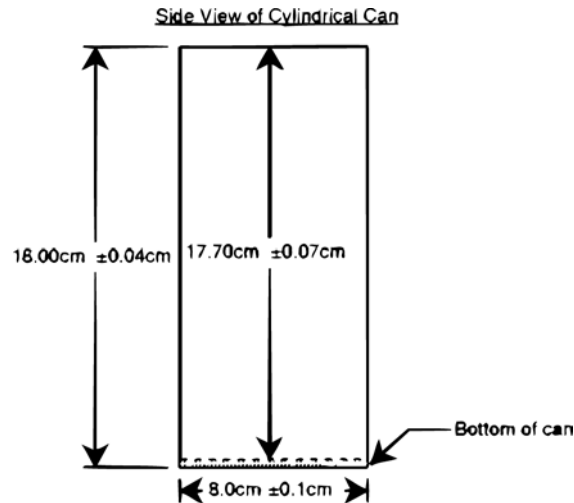

FIGURE 0.1
- 1) Calculate the volume of the bottom of the cylindrical can in Fig. 0.1. The outside measures $18.00 \pm .04$ cm, the inside measures $17.7 \pm .07$ cm, and the diameter measures 8 ± 0.1 cm. Assume the errors are independent. Write down your result and its error, using: